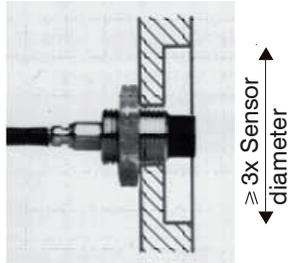

Fig. 13 Example of flush assembly of an unshielded sensor in a metal support
- Mount unshielded sensors flush in the metal sensor support, see Fig. 13.